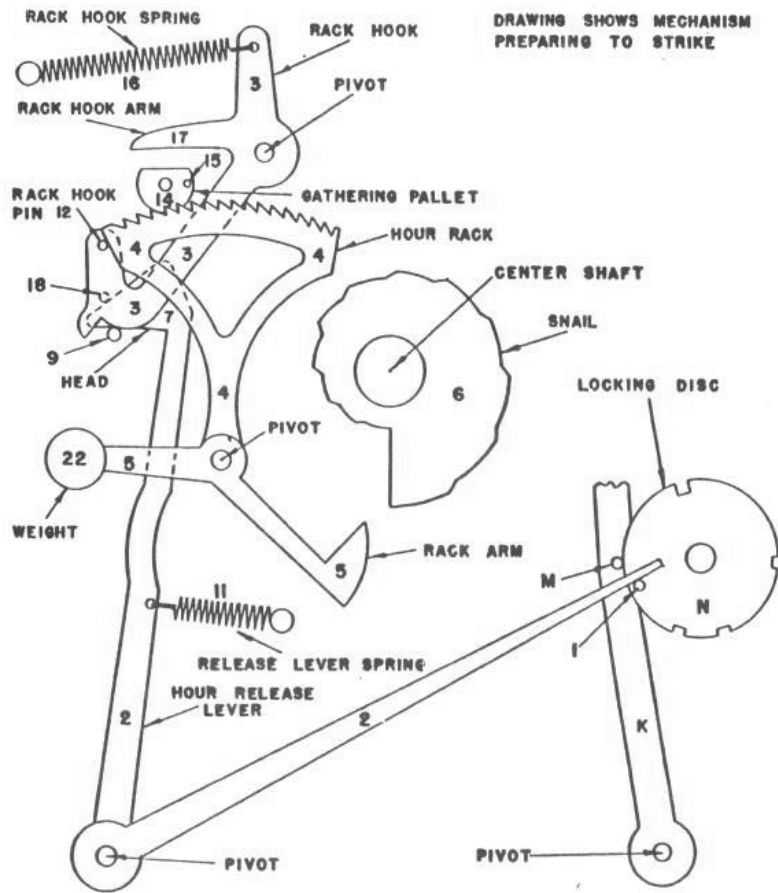

Figure 8
*See Figures 8 and 9, Page 17*
See Figure 8, Page 17
*See Figure 8, Page 17*
1. Hour rack 4 may not be set correctly and gathering pallet pin 15 may be hitting on top of the teeth. Reset. See Figure 8, Page 17.